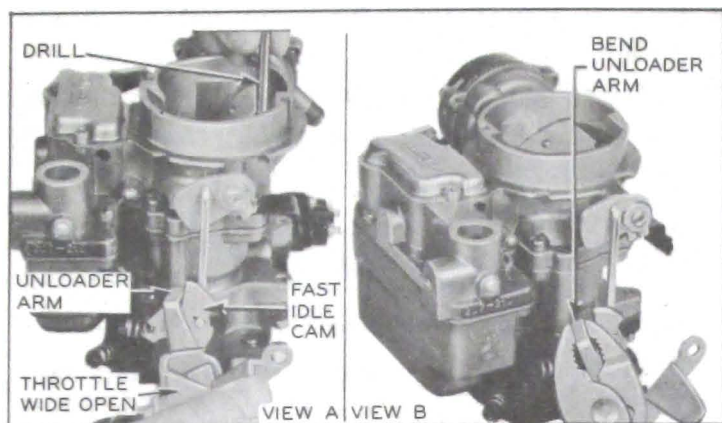

Figure 3-28—Choke Unloader Adjustment
3. Hold choke closed lightly. Fully open throttle, forcing choke valve open. Then check clearance between upper edge of choke valve and wall of air horn using a $\frac{3}{16}$ " drill. See figure 3-28.